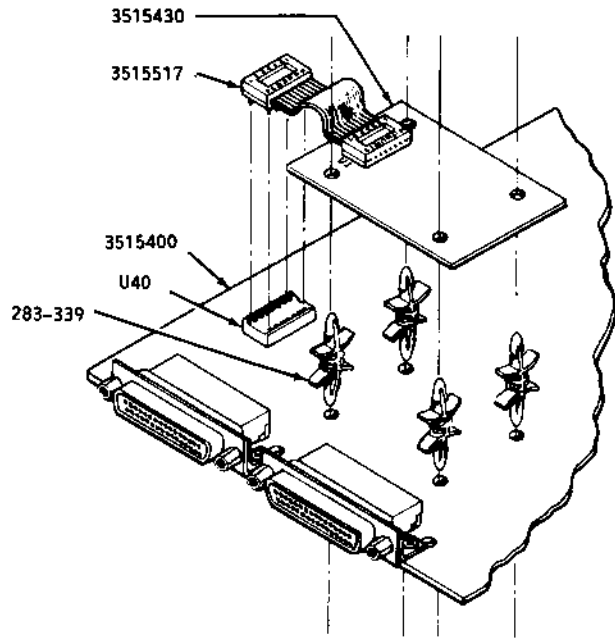

Fig. A-1 Mounting Hole Positions
1. Install four snap-on plastic mounting clips into the four mounting holes on the controller board in the bottom of the display unit, as shown in figure A-1. Make sure that the wings of each clip do not interfere with the components of the controller board.
2. Install the RS422 interface board on the controller board, using the newly-installed clips, with U1 on the RS422 interface board towards the left of the controller board, as shown in figures A-1 and A-2.